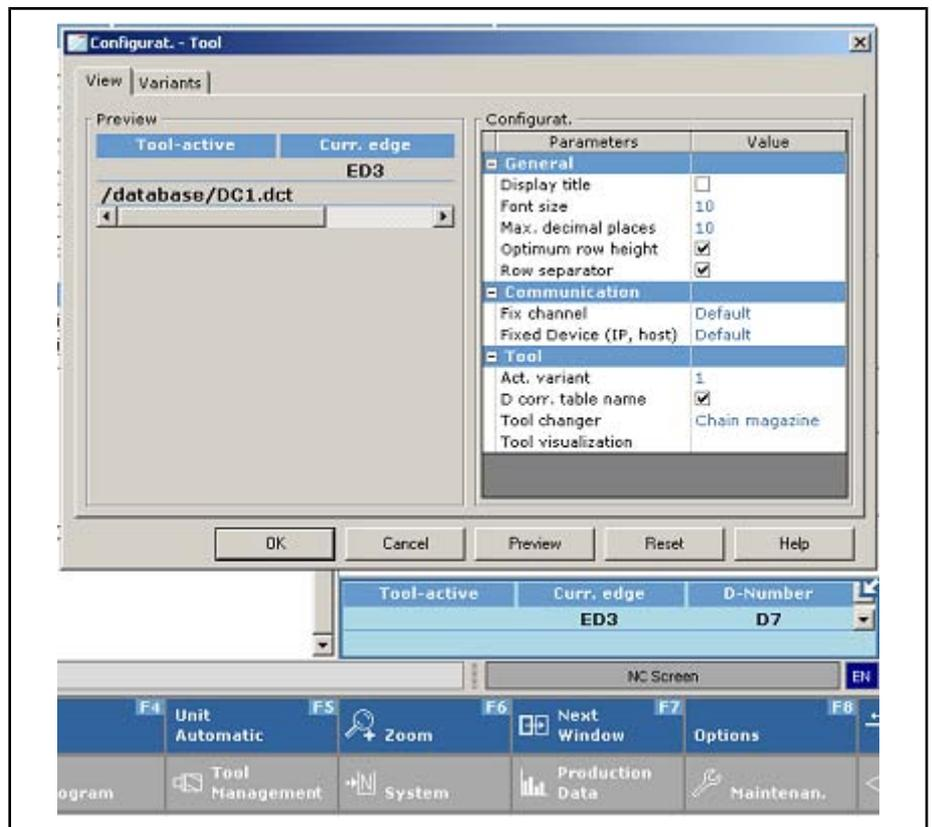

Fig.7-62: Dialog: Configuration - Tool
2. Select the display of the active tool by clicking with the mouse or by pressing <F7> (several times, if applicable) (see note!) (fig. 7-62 "Dialog: Configuration - Tool" on page 181).
However, note that the display of the active tool must be selected, i.e. must be highlighted in blue (as shown in fig. 7-62 "Dialog: Configuration - Tool" on page 181), to do this.
- Select the font size for the displayed data of the active tool by double-clicking the currently set value (the value 10 in the example in fig. 7-62 "Dialog: Configuration - Tool" on page 181).